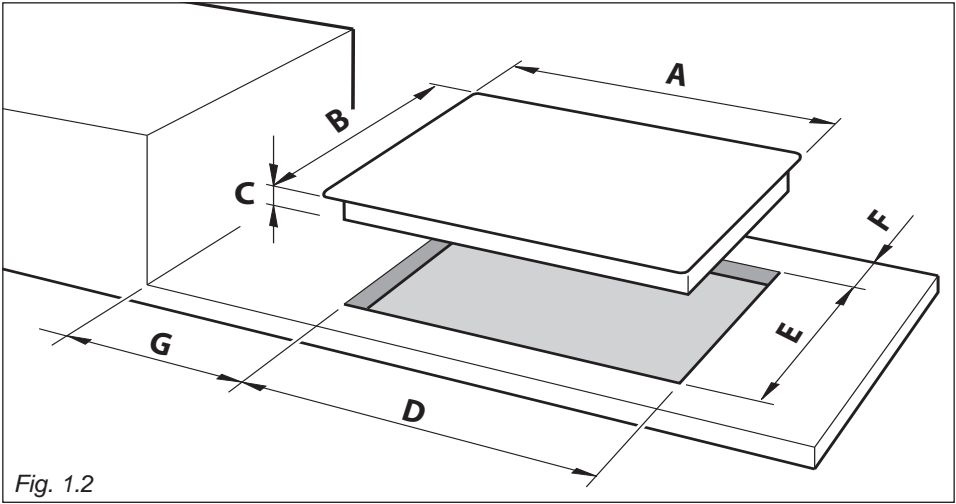

Fig. 1.2
In order to install the cooker top into the kitchen fixture, a hole with the dimensions shown in fig. 1.2 has to be made, bearing in mind the following:
- the cooker top must be kept no less than 200 mm away from any side wall (fig. 1.2);